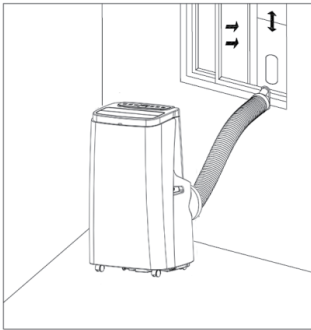

Figure 5
4. Elongate the heat pipe and snap the flat end of the heat pipe into the elliptical hole of the window sealing plate assembly (as shown in Figure 5 and Figure 6).